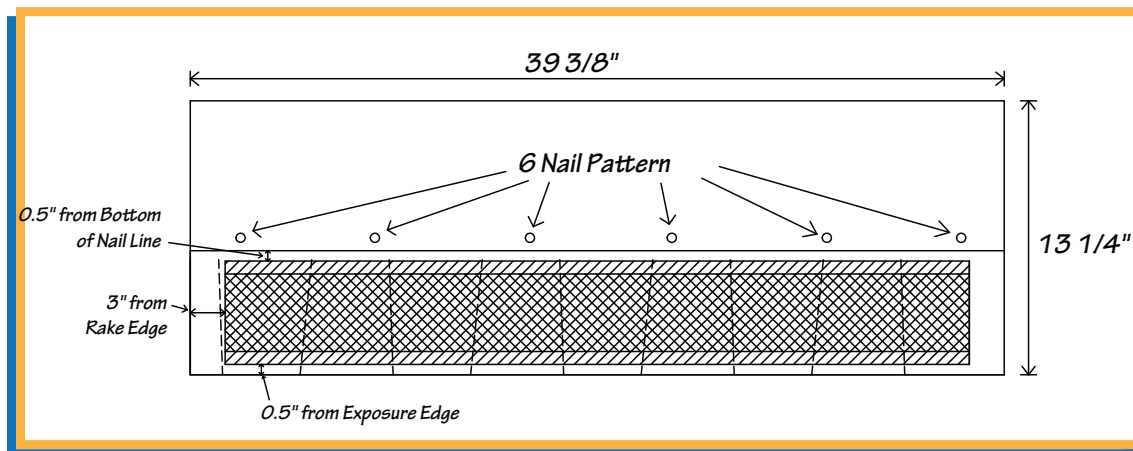

Figure 10. Proper Nailing Pattern
5. Heating panels should be installed below the nailing line (see Figure 10).